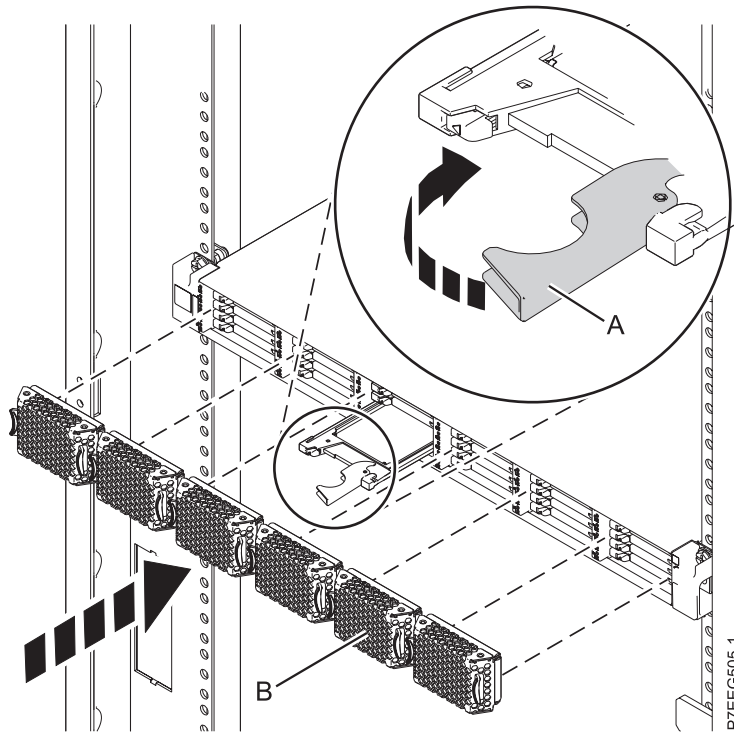

Figure 29. Replacing a solid-state drive in the ED/R1 PCIe storage enclosure.
4. When the solid-state drive identify LED turns on solid, slide the solid-state drive all the way into the ED/R1 PCIe storage enclosure until it is fully seated. Then rotate the handle (A) to the locked position. See Figure 29.
6. Install the bezel (B).